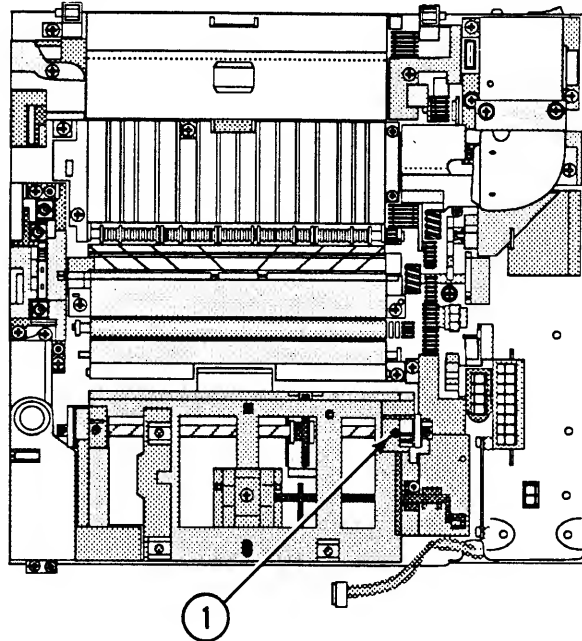

FIGURE 60
2. Remove the Phillips screw (Figure 60, #1) that secures the right hook guide to the main body block.